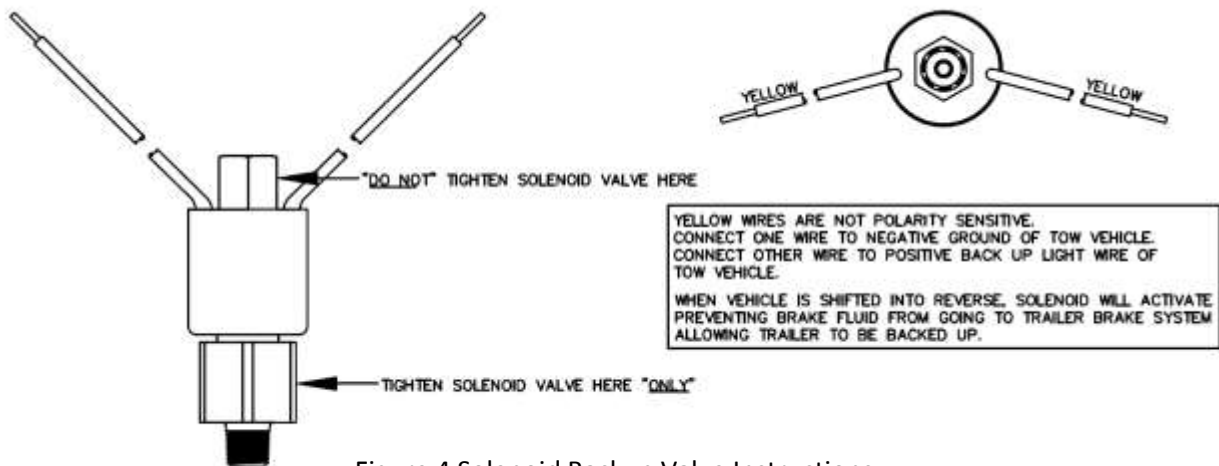

Figure 4 Solenoid Backup Valve Instructions
- Confirm solenoid is wired to back-up light circuit. A distinct click sound will be heard when tow vehicle's transmission is switched into reverse. See Figure 4 for wiring instructions for TITAN's solenoid backup valve. Note location for tightening valve to master cylinder.
- NEVER tighten or loosen solenoid by small hex fitting on top of solenoid. Only tighten by bottom larger portion as shown in Figure 4. Failure to do so can cause internal damage to solenoid.